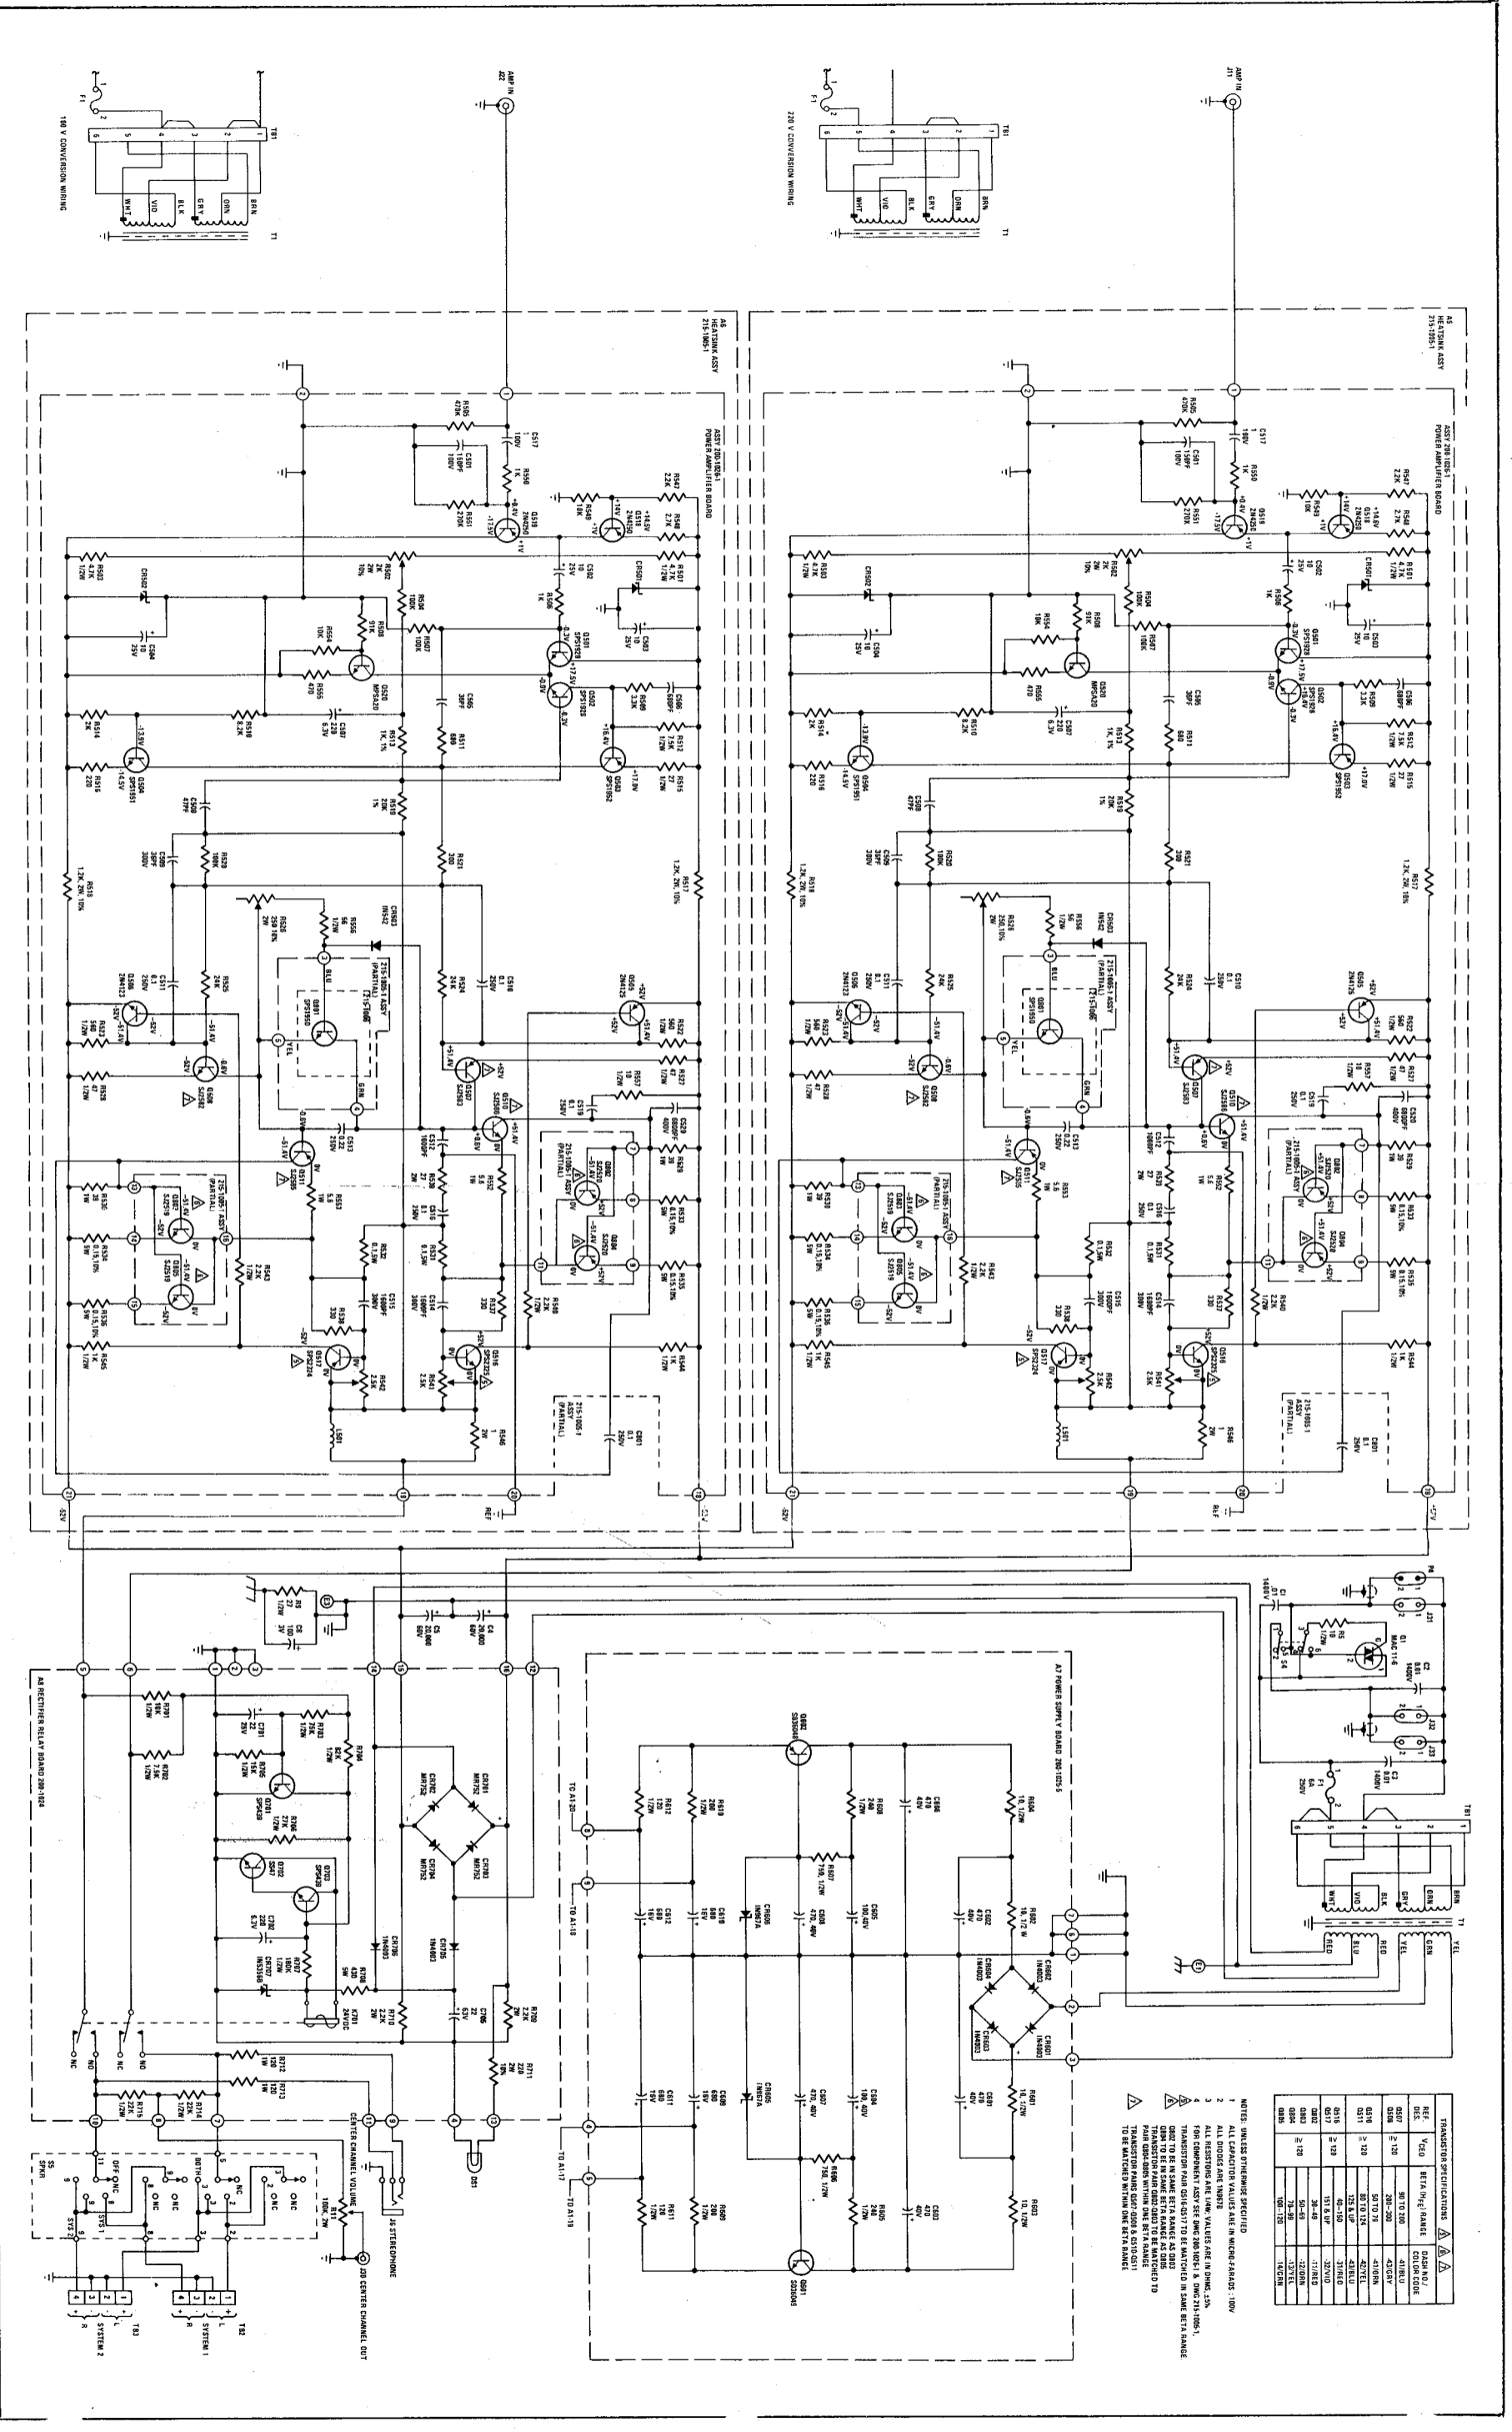

FIGURE 21. Model 1200 Schematic, B
*FOR APPLICABLE DASH NO., SEE TRANSISTOR SPECIFICATION CHART AND ASSOCIATED NOTES ON SHEET 2 OF UNIT SCHEMATIC (Figure 21)